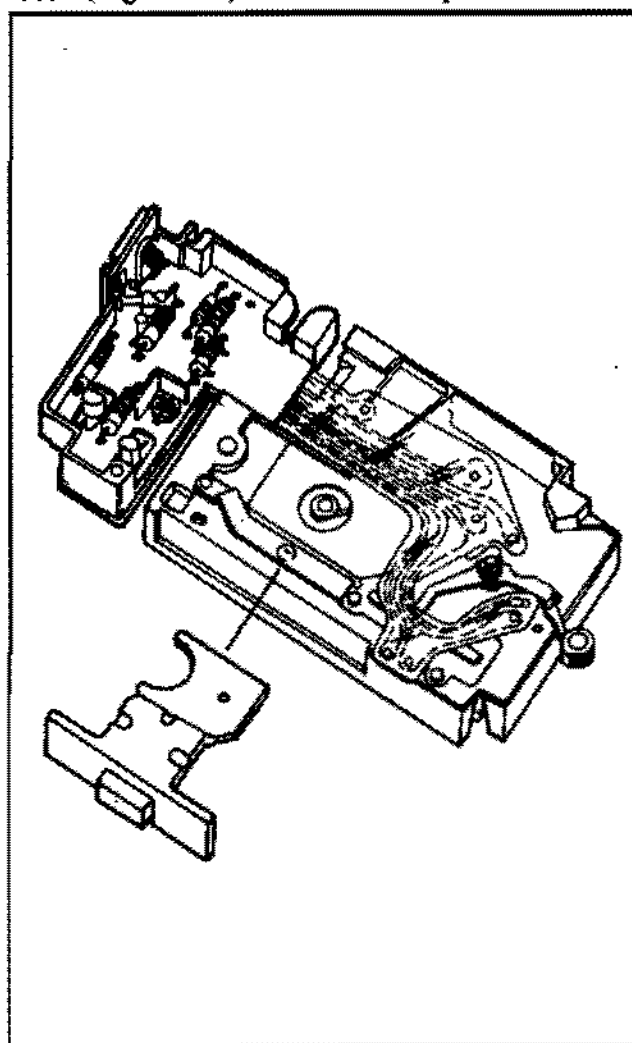

FIGURE 2-5 420/430 MODEL SHUTTER
C. SHUTTER MODEL 420/430 (420 & 430 CAMERAS) (FIGURE 2-5)
The Model 420/430 shutter can be considered roughly similar to Model 440/450 in that the basic shutter action of the two models is identical. However, the Model 420/430 does not contain an aperture wheel, and its electrical circuit is simplified, allowing only one exposure time. The simpler model is equipped with a film speed slide (Figure 2-5) in lieu of the aperture wheel.